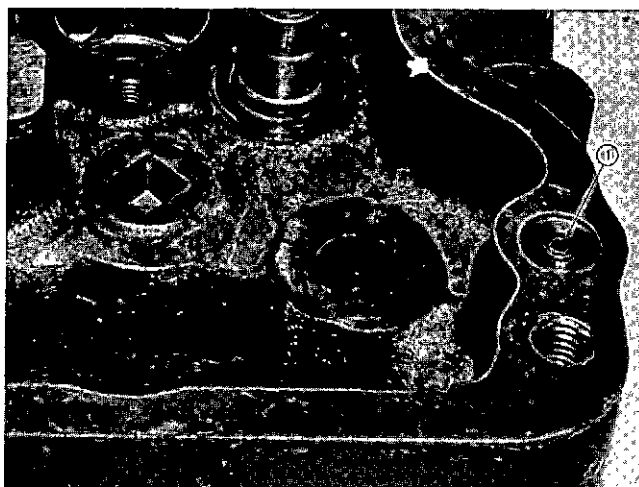

Fig. 2-1-3, V40202. Restrictor plug installed
7. Check lubricating oil restrictor plug (1, Fig. 2-1-3) and lubricating oil passages to be sure they are open.